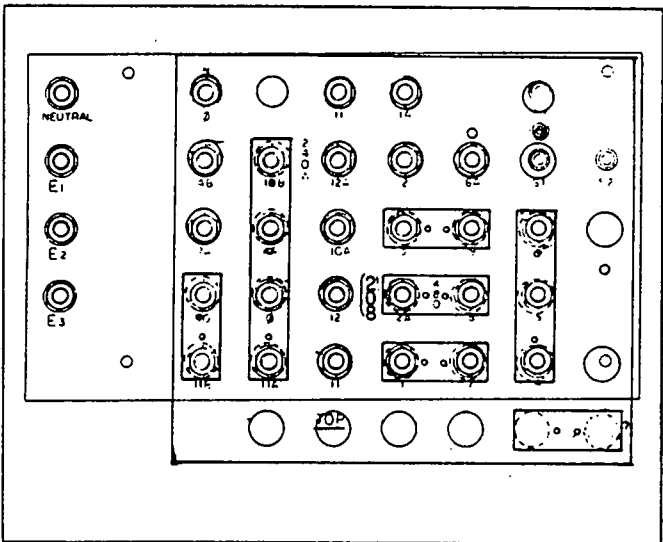

Figure 5. High Voltage Board- 120/208 Volts
- Figure 5 shows the high voltage board with 120/208 volts, 3-phase selected.